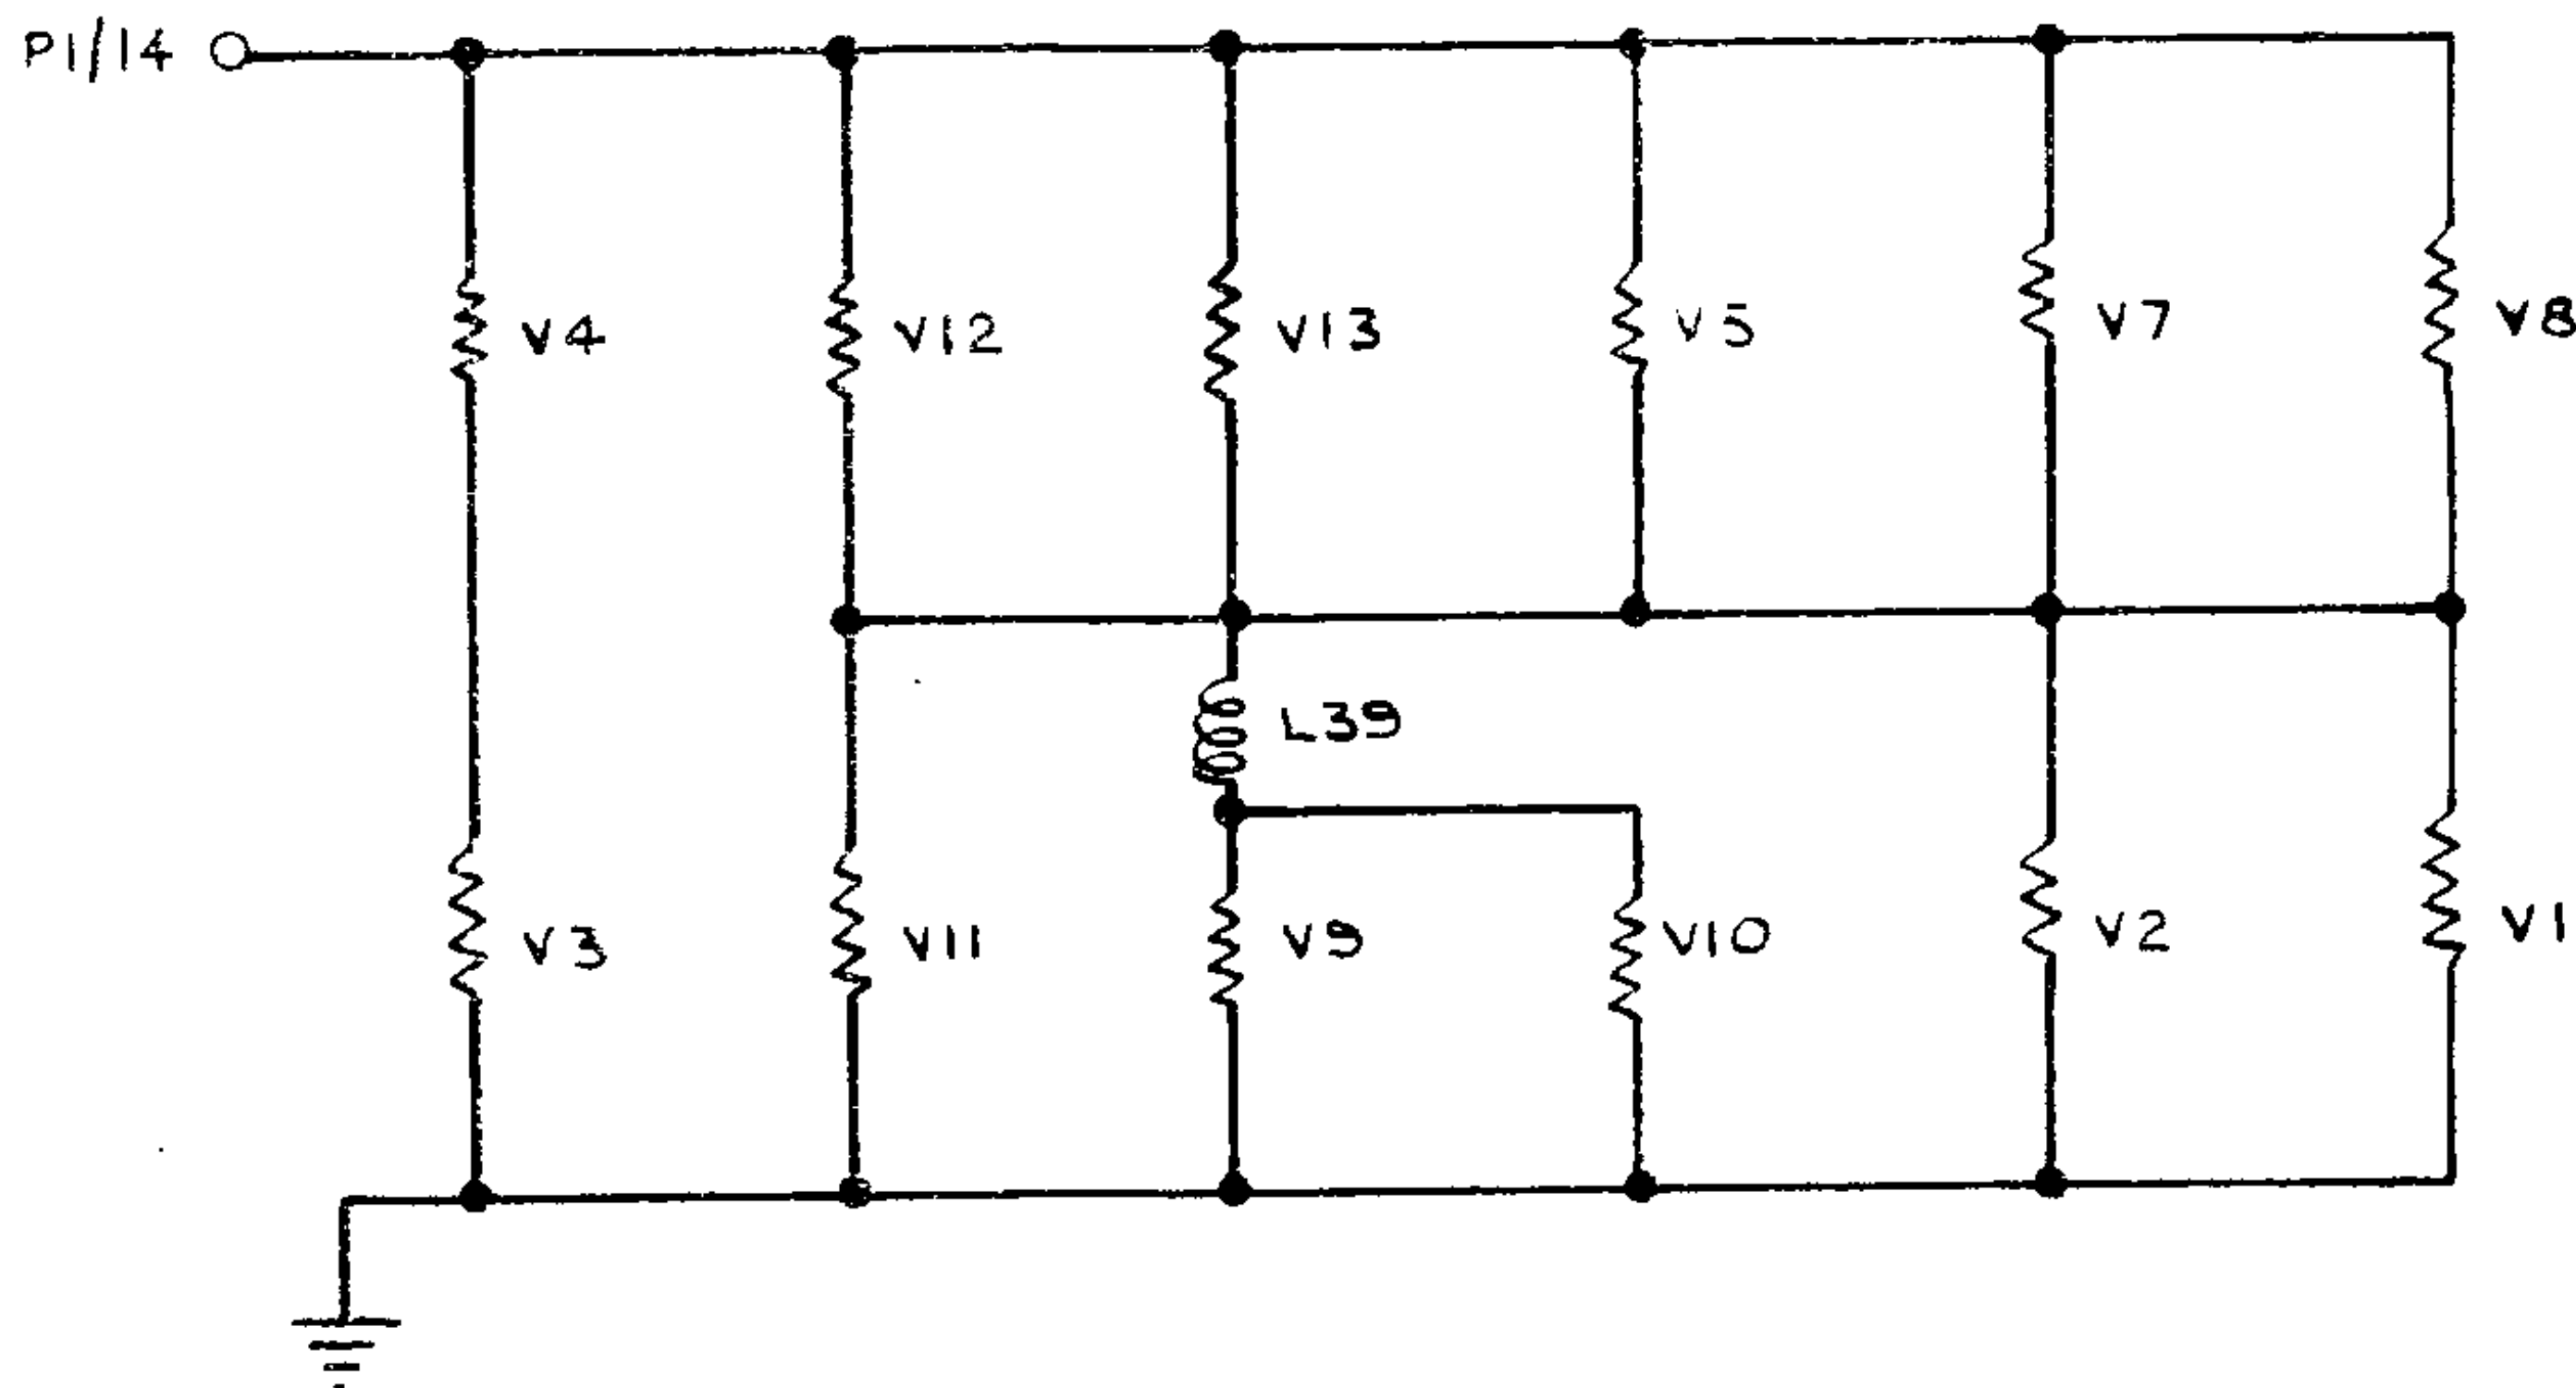

Fig. 1. Arrangement of heater
5. The valve heaters are wired in a series parallel arrangement as shown in fig. 1. Particular attention should be paid to the relative heater voltages since an apparently faulty valve may in fact be serviceable and the heater resistance of another valve may have risen to deprive the suspect valve of correct heater voltage.